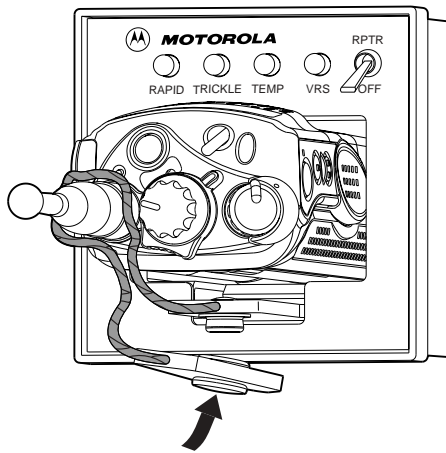
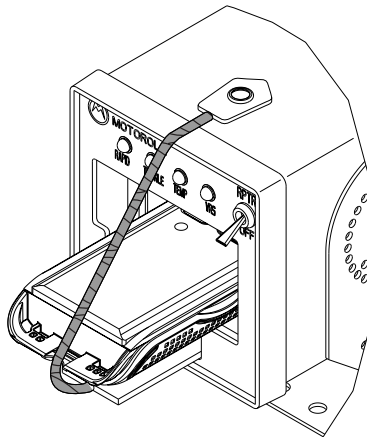

Figure 1 Radio with Antenna Installed
Figure 3 Battery without Radio
5. For radios with an antenna installed, loop the cord around the base of the antenna and then snap the latch back onto the strap (refer to Figure 1).
For charging a battery that is not attached to a radio, loop the cord around the top of the battery, then snap the latch onto the snap on the top of the charger (refer to Figure 3).
Also, if the radio and battery are in the charger pocket, loop the safety strap around the radio antenna, as shown in figures 1 and 2. If a battery alone is in the pocket, pass the safety strap over the top end of the battery and snap it securely to the snap fitting on the top of the charger housing, as shown in Figure 3. This will prevent the battery from being shaken out of the charger during rough traveling conditions, and will also prevent it from becoming a dangerous projectile in the event of a vehicle crash.